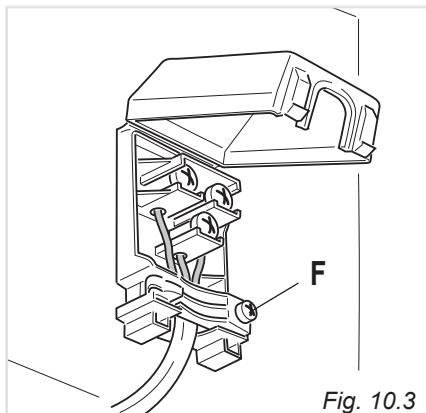

Fig. 10.3
- Open the cable gland by unscrewing screw "F" (fig. 10.3), unscrew the terminal screws.